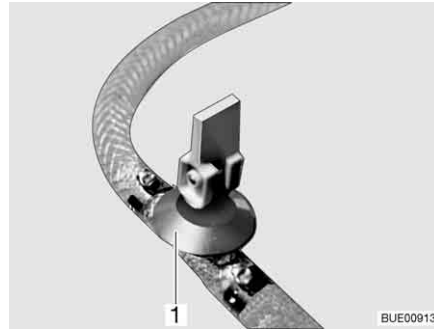
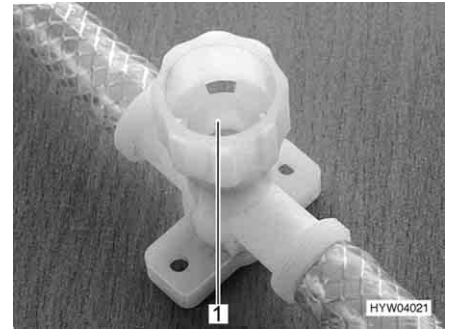

Fig. 151 Drain cock (with rocking lever)
Fig. 152 Drain cock (with twist cap)
- Close all drain cocks. To do this, position the drain cock's rocking lever (Fig. 151, 1) horizontally or turn the drain cock's cap (Fig. 152, 1) in a clockwise direction.